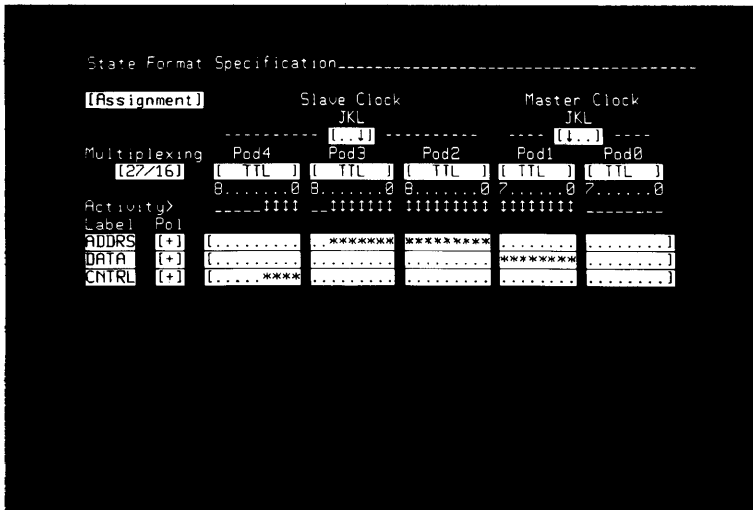

Figure 3-19. State Assignment Format Specification For 1630D (1630A does not have POD0)
4. Set up the [Assignment] menu of the State Format Specification as in figure 3-19. Move the cursor into the appropriate fields and use the NEXT[] or PREV[] keys and the keyboard keys, as required.